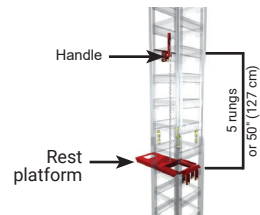

fig. 7.27
- 7- Install the handle 5 rungs above the rest platform (fig. 7.27). Fasten with the 3/8" bolt and nut.